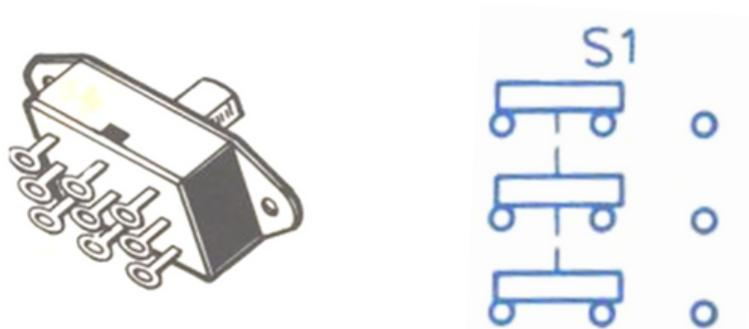

Figure 2.2.3
- Figure 2.2.3 show that the mechanical-interlocked sliding plate/rod with NO (normally open) and NC (Normally close) contacts.